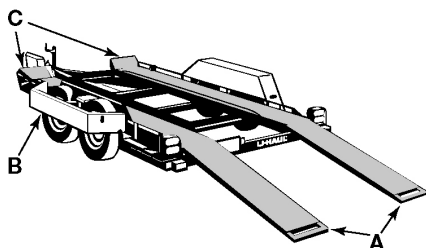

Figure 15
3. Pull both AT ramps (figure 15-A) completely out and lower to the ground for loading.
4. Unlatch the left fender (Figure 15-B), and rotate it down.